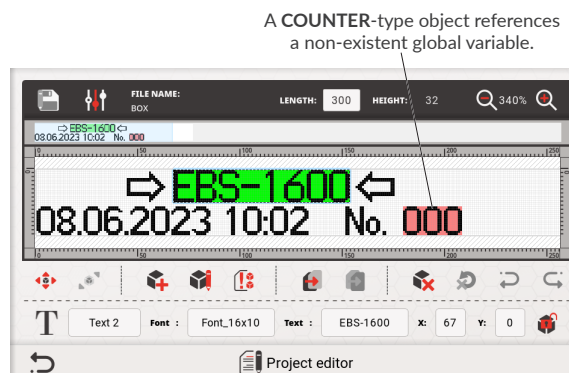

Fig. 56.
- Objects displayed in **red** (see Fig. 56) contain an error, for example they contain a non-existent (deleted) global variable, text file, image or font.